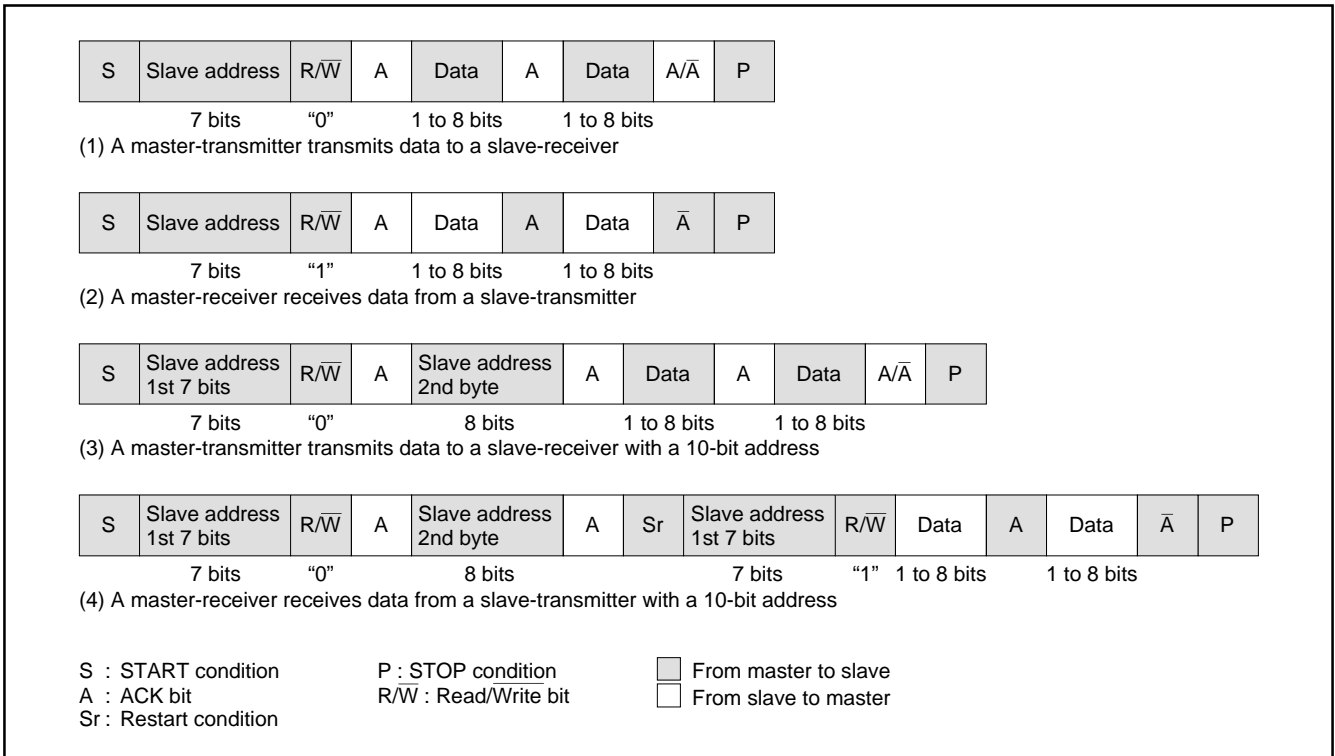

Fig. 61. Address Data Communication Format
① 7-bit addressing format
To meet the 7-bit addressing format, set the 10BIT SAD bit of the I²C control register (address 00F9₁₆) to "0." The first 7-bit address data transmitted from the master is compared with the high-order 7-bit slave address stored in the I²C address register (address 00F7₁₆). At the time of this comparison, address comparison of the RBW bit of the I²C address register (address 00F7₁₆) is not made. For the data transmission format when the 7-bit addressing format is selected, refer to Figure 61, (1) and (2).
② 10-bit addressing format
When the first-byte address data matches the slave address, the AAS bit of the I²C status register (address 00F8₁₆) is set to "1." After the second-byte address data is stored into the I²C data shift register (address 00F6₁₆), make an address comparison between the second-byte data and the slave address by software. When the address data of the 2nd bytes matches the slave address, set the RBW bit of the I²C address register (address 00F7₁₆) to "1" by software. This processing can match the 7-bit slave address and R/W data, which are received after a RESTART condition is detected, with the value of the I²C address register (address 00F7₁₆). For the data transmission format when the 10-bit addressing format is selected, refer to Figure 61, (3) and (4).
(11) Example of Master Transmission